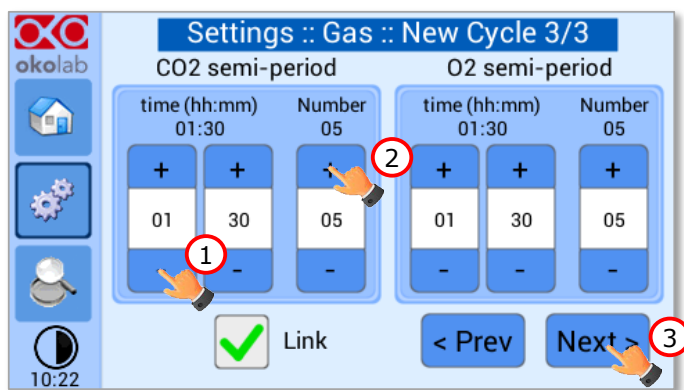

Figure 53. Set the duration of the Gas Cycle.
5. Set the duration in hours and minutes you want the system to dwell on each concentration (1 in Figure 53).
6. Set the number of cycles (*Number*) you want the system performs (2 in Figure 53). Finally press *Next*> (3 Figure 53).